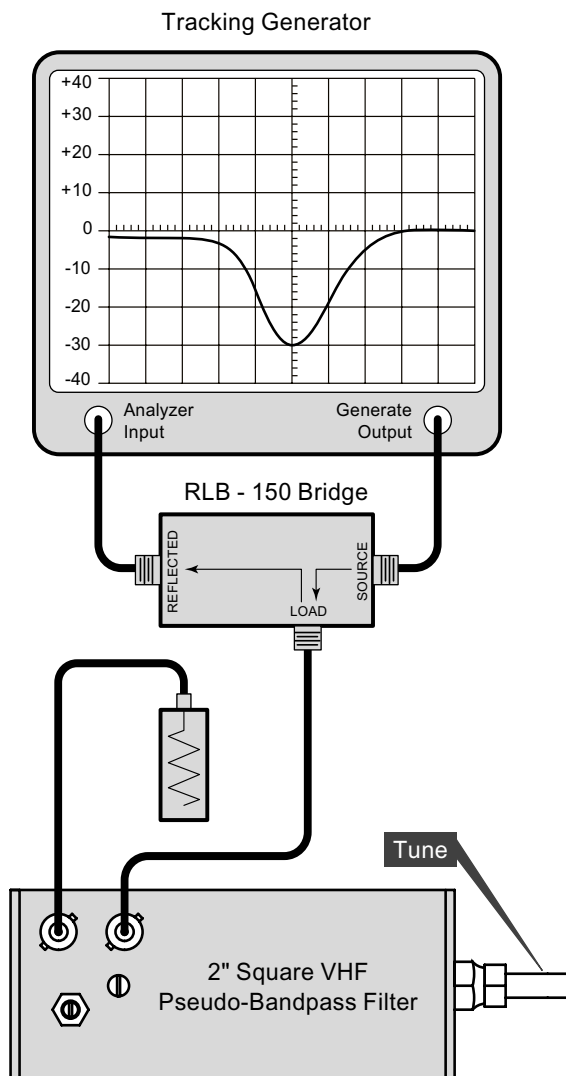

Figure 15: Tuning the Pseudo-bandpass filter for maximum return loss.
- 1) Set the tracking generator to a center frequency of the filter to be tuned. Set the tracking generator for 0 dBm output and a 10 dB/div scale. Connect the equipment as shown in **Figure 15** but leave the load port of the bridge unconnected.
- 3) Connect the load port of the bridge to the filter as shown in figure 15.